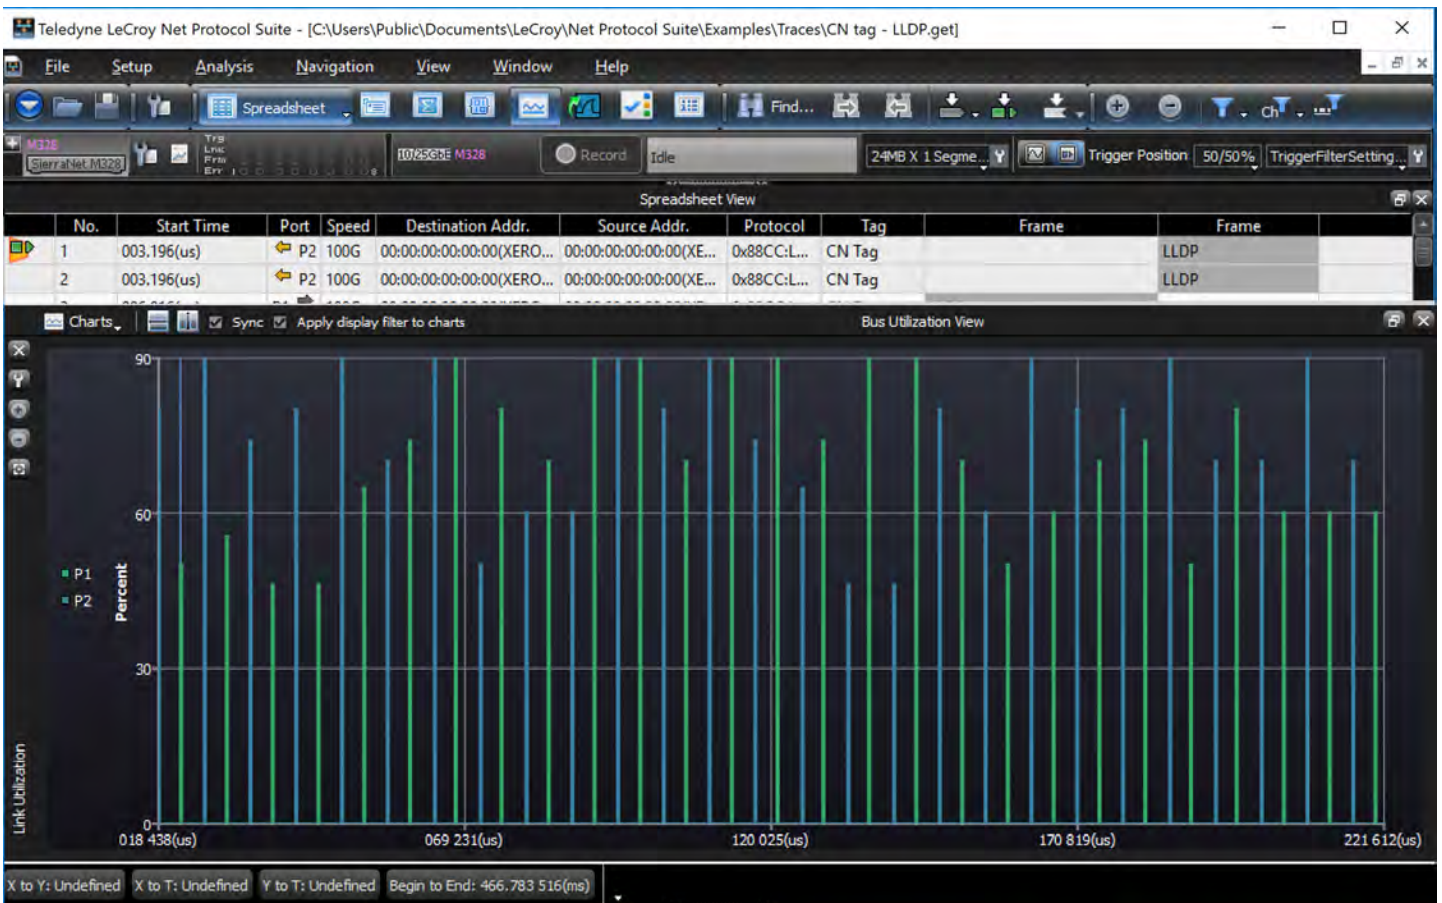

Figure 5.93: Measurement Interval – 10 nsec (Lots of Samples)
- ◆ Smaller intervals will result in more data points, and thus more-precise graphs (Figure 5.93).